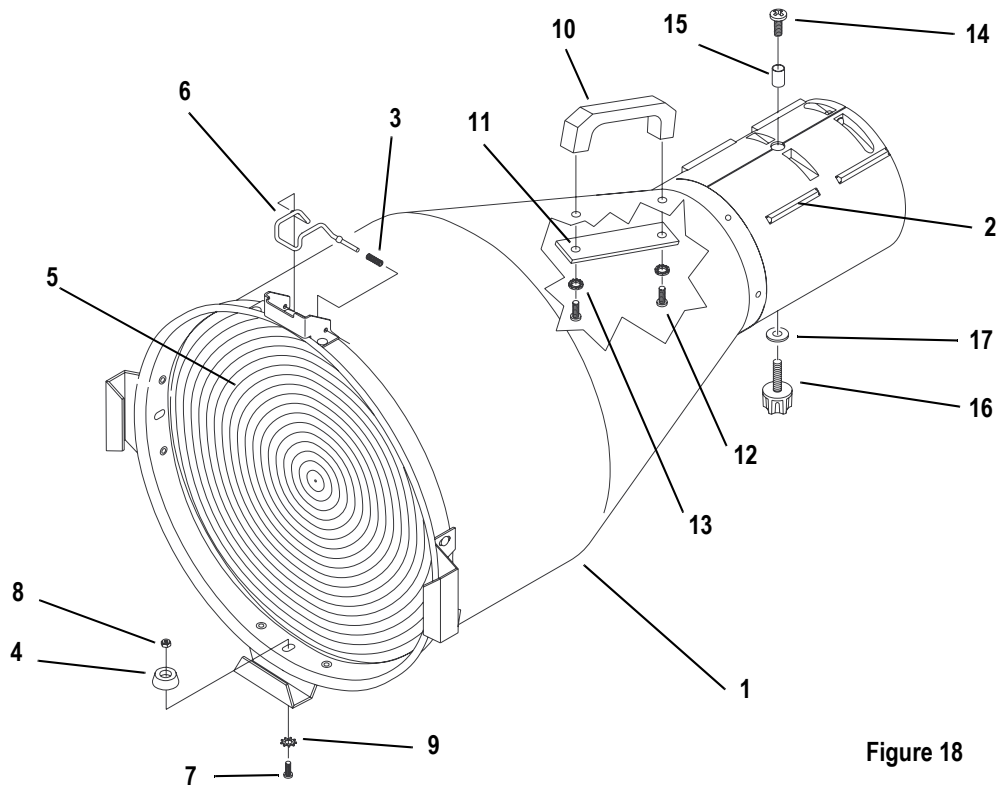

Figure 18
- Step 1: Place the lens tube assembly (1) on your work surface. Align the assembly so that the colorframe grooves are to your left.
- Step 2: If you are assembling a 5° tube, attach the handle (10) as shown in Figure 18, using the screws (12), washers (13) and backing plate (11) indicated.
- Step 3: Install the required lens as shown on page 15 or page 16 in the tube using required bumpers (4), screws (7), nuts (8), and washers (9) as indicated. The side of the lens with the fresnel grooves should face the front of the tube. The smooth side should face the rear.